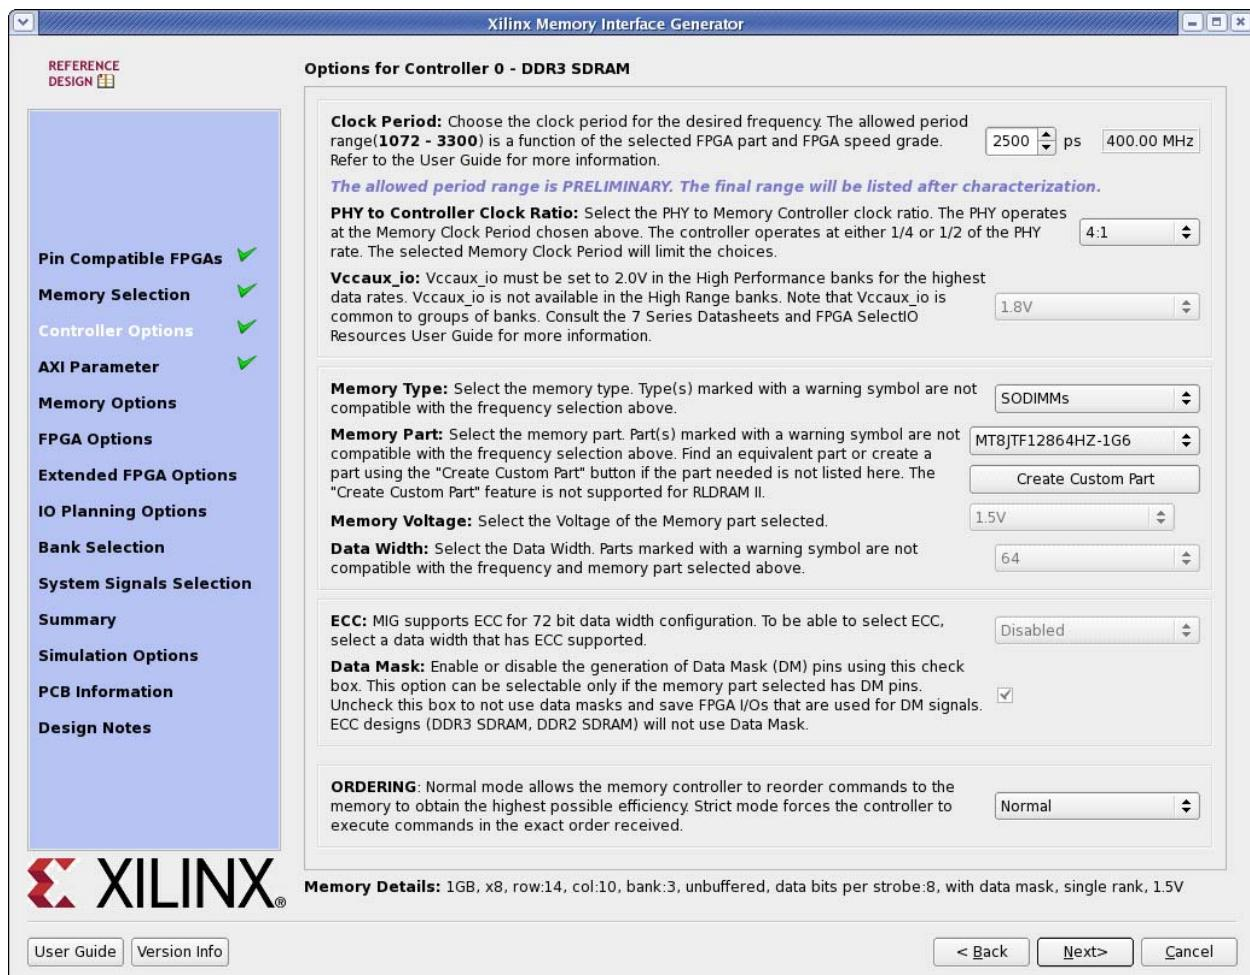

Figure 29: MIG Controller Options Page
8. In **Controller Options**, (Figure 29), set the following: